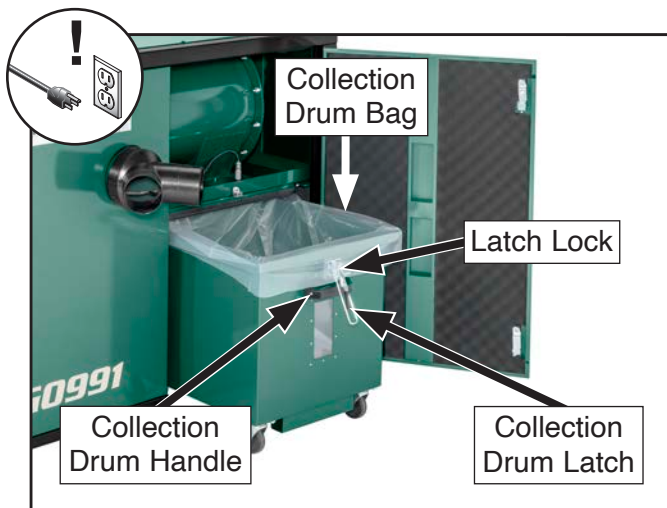

Figure 53. Location of collection drum latch.
2. Open front right door, disengage latch lock, then lift collection drum latch (see **Figure 53**) to lower collection drum onto casters.
3. Roll drum clear of machine (see **Figure 53**).